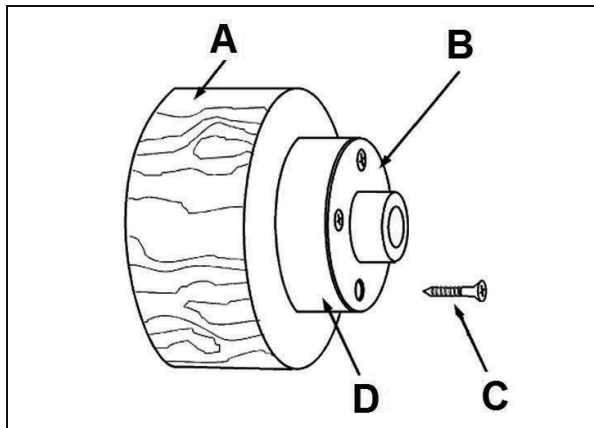

Fig 26
Mount the work piece (A, Fig 26) directly to the face plate using 4 wood screws (C) from the back. Be careful to use screws short enough not to interfere with the cutting process but long enough to hold the workpiece securely to